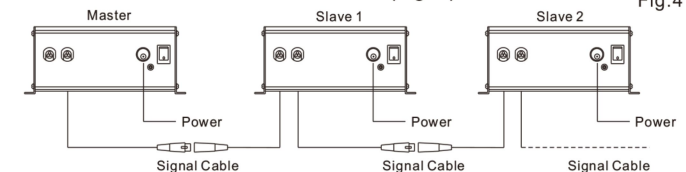

Fig.4
- (6) The connection of Master/Slave Control Mode (Fig. 4):